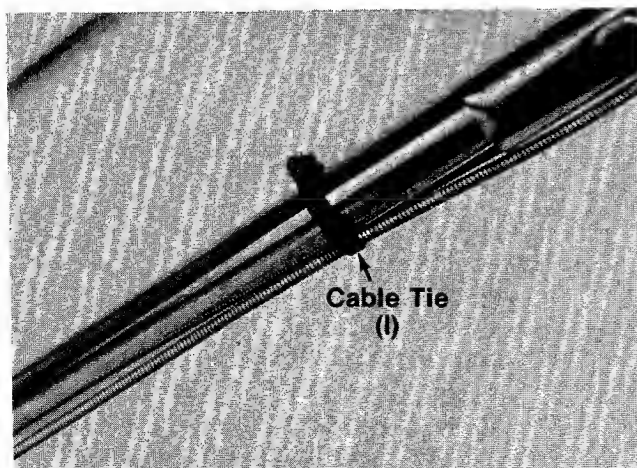

FIGURE 11.
11. Secure throttle control cable and brake cable to upper and lower handles with cable ties (l). See figure 11.